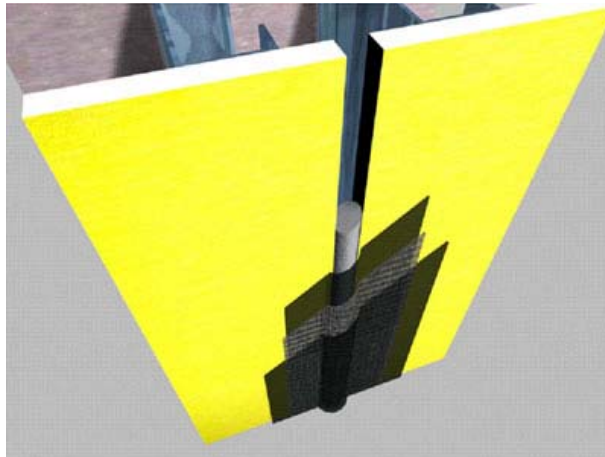

Figure 14
3. Using a brush or 19 mm (3/4 in) nap roller, apply a liberal coat of AquaFlash Liquid material to the backer rod and adjacent substrate surface to the width of the AquaFlash Mesh - Figure 14.